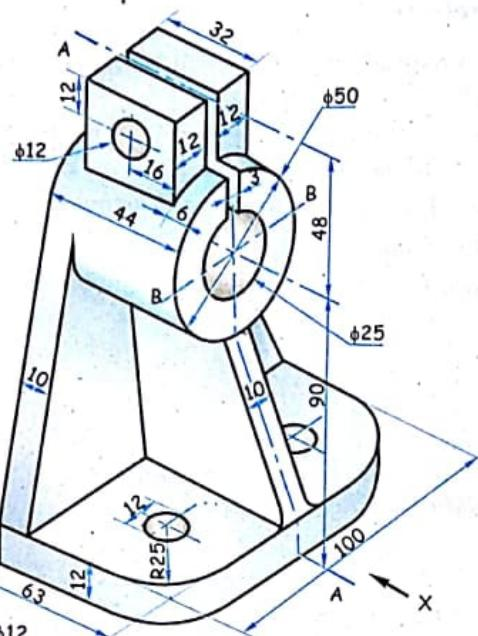

FIG. 5.46 (a)
**Solution :** Refer figure 5.46 (b)